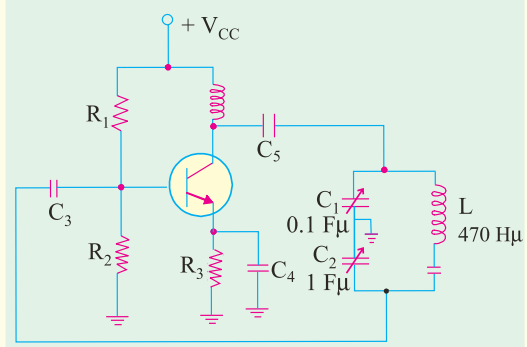

Fig. 65.38
7. Determine the frequency of oscillations for the transistor Colpitts oscillator circuit shown in Fig. 65.38. **(24.4 kHz)**